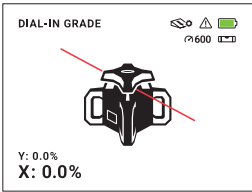

Fig.14
- To create a automatic grade / slope, press the **dial-in grade button** on the remote control. The laser will automatically select the X-axis (Fig. 14). When dial-in grade mode is active, the following icon will be displayed on the LCD screen on the laser level and remote control: